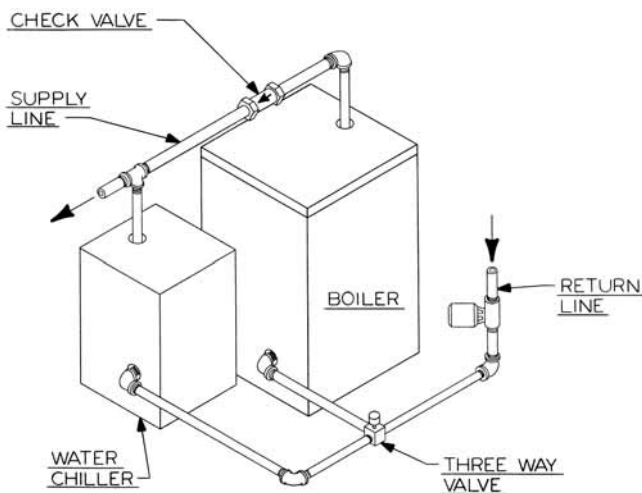

Figure 3.2: Parallel Hook-up with Water Chiller
7. If this boiler and distribution system is used in conjunction with a refrigeration system, pipe the chilled medium in parallel with the boiler and install the proper valve to prevent the chilled medium from entering the boiler. A drawing illustrating this hook-up is provided in Figure 3.2.